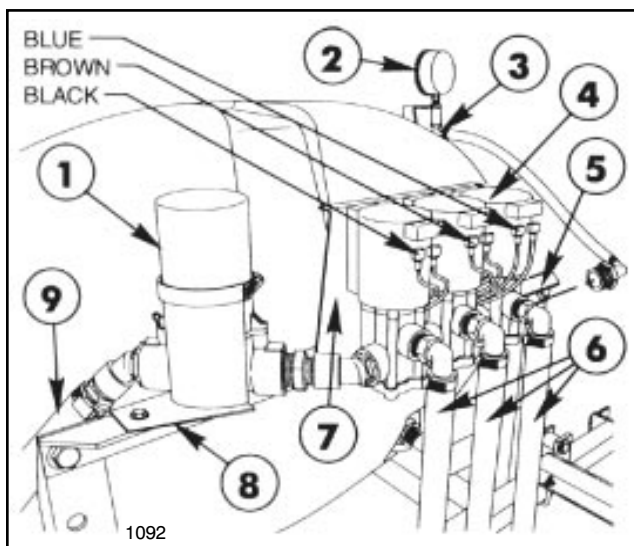

FIG. 14
2. Connect the Motorized Control Valve and the Solenoid Assembly by screwing the two together. See FIG. 14.
3. Apply thread sealer and install three (3) 90° 3/4" hose barbs into the outlet ports of Solenoid Valves. Install 3/4" x 3/8" barbed 90° elbow in the end of the Solenoid Assembly. see FIG. 14.
4. Loosely attach the Control Valve Bracket to the Cross Support with two (2) 5/16" x 3/4" cap screws and flange lock nuts.
5. Install two (2) Grommets in 1" dia. holes in Solenoid Mounting Bracket.
6. Slide head of 6M x 16 mm hex hd. screw to the top of the mounting groove in each Solenoid Valve. Assemble Control Valve and Solenoid Valve assembly to the Solenoid Mounting Bracket using three (3) 6M x 16 mm screws just installed. Secure Solenoids with three (3) 6M hex nuts and lockwashers. See FIG. 14.
7. Install valve and bracket assembly to the Cross Support as shown in FIG. 14. Secure with two (2) 5/16" x 3/4" hex flange hd. screws and flange lock nuts.